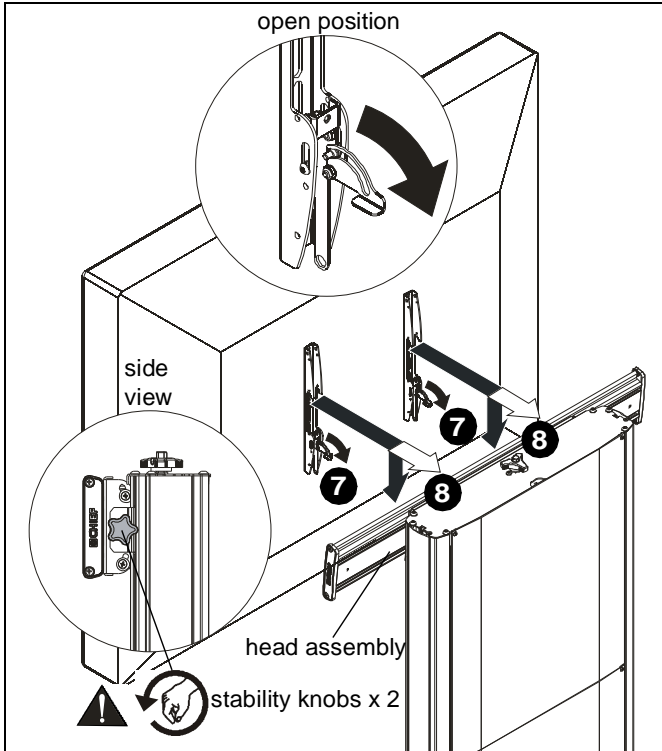

Figure 5
7. Position latches on interface uprights so that they are in the "open" position. (See Figure 5)
8. Hang interface uprights (B) on head assembly. (See Figure 5)